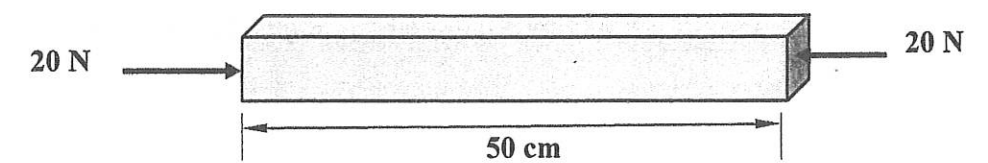

Figure A1(a) / Rajah A1(a)
- (b) **Figure A1(a)** shows a steel bar of 50.0 cm x 5.0 cm x 2.0 cm bears a compression load of 20 N. Determine the stresses and strains in the bar where the Young Modulus given is 215 GN/m².